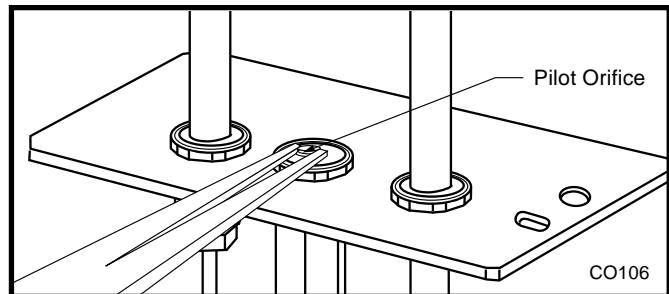

Fig. 70 Remove pilot orifice.
12. Remove pilot orifice with needlenose pliers. (Fig. 70)